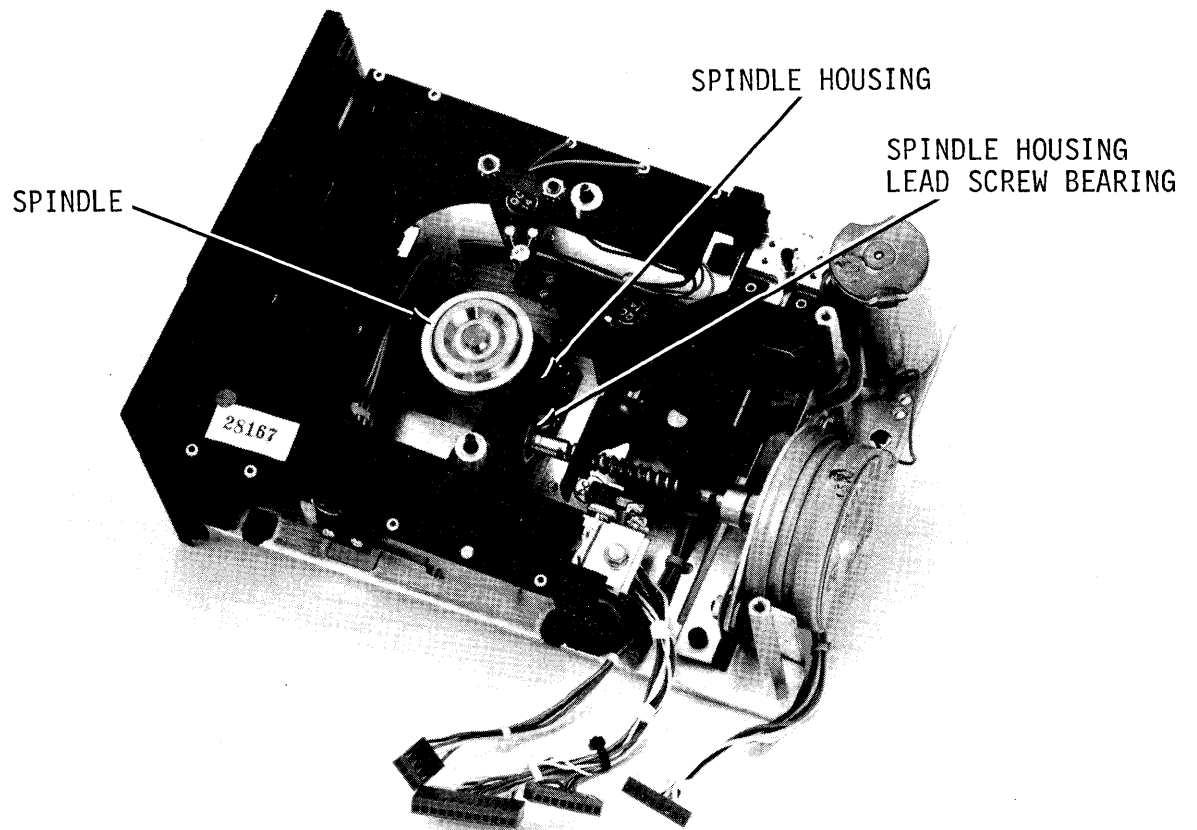

Figure 6-10. Spindle Housing Details
- d. Remove the two or three spindle housing mounting screws and remove the spindle housing (and spindle) from the drive mechanism by raising the housing from the chassis and sliding it toward the bezel (toward the front of the drive) until the lead screw is free of the bearing in the housing. See figure 6-10.